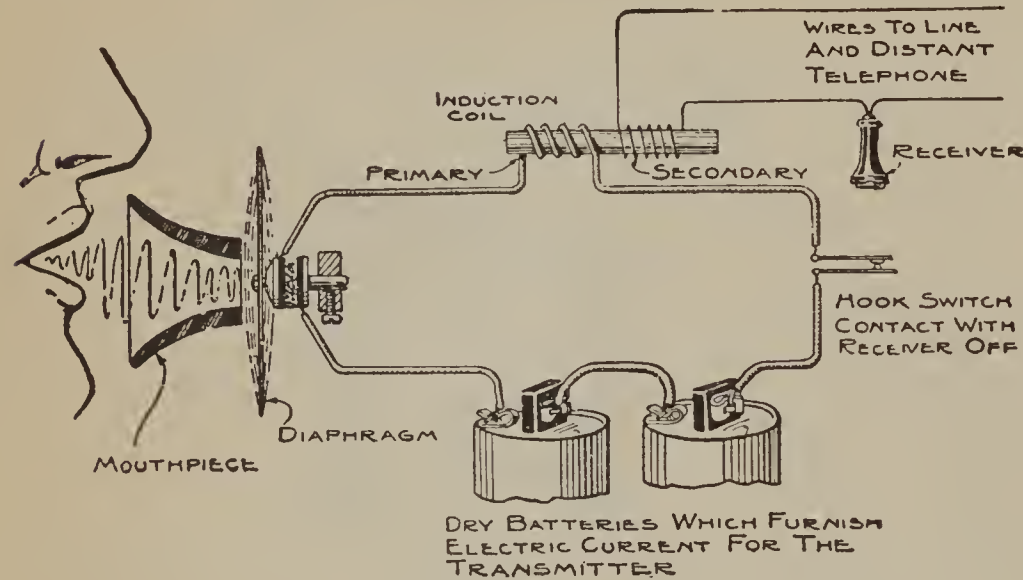

FIG. 79.—Talking
The current variations set up by the transmitter pass through the primary windings of the induction coil (see fig. 79), which induces a similar varying current with a greater pressure in the secondary winding. This
(See figs. 79 and 80.) This also is in both receiver and transmitter circuits. Its function is to change the low-voltage battery current in the transmitter circuit to a high-voltage current which goes out on the line. This change is necessary because the voltage (or pressure) furnished by the three dry batteries in the transmitter circuit is too low to overcome the resistance. It is very seldom that an induction coil gets out of order—only when a wire is burned out by lightning. In this event it should be replaced with a new coil.
(4) Your telephone bell rings, but you can not hear anything when you place the receiver to your ear. This trouble will probably be in the receiver circuit in the telephone. (See figs. 79 and 80.) It may be caused by the following conditions:
This trouble may be caused by lightning burning out the wire in the ringer coils, by a faulty bell adjustment (as described under "Telephone testing"), or by a loose connection or broken wire in the ringer circuit in the telephone. (See fig. 79.)